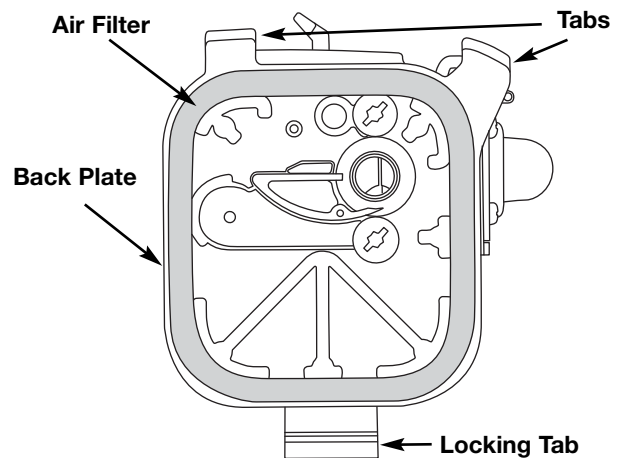

Fig. 25
2. Remove the air filter (Fig. 25).
- Replace the filter (Fig. 25).
- Reinstall the air filter cover. Position the slots on the top of the air filter cover onto the tabs at the top of the back plate (Figs. 25 & 29).